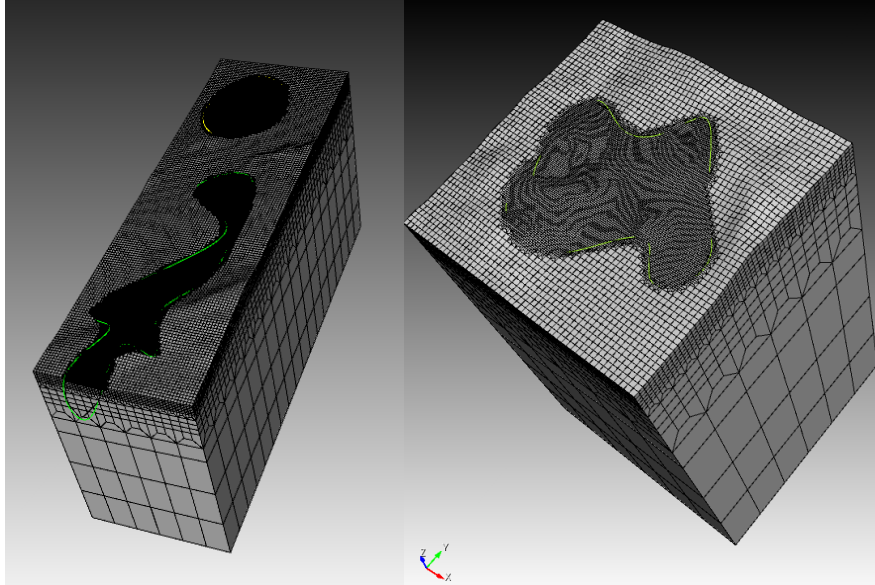

Figure 2:
- Collecting a single free mesh cubitfile and refine the hex inside some curves (ex. alluvial basin, Figure 2)